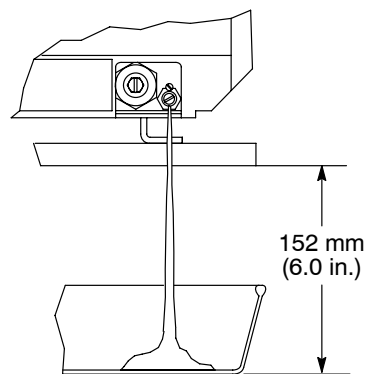

Figure 3-2 Required clearance for draining and filter flushing
- The mounting surface is raised at least 152 mm (6 in.) for draining adhesive. See Figure 3-2.